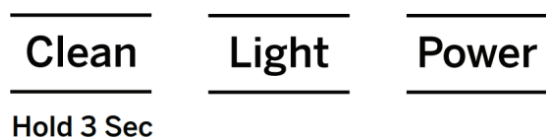

Figure 3
6. Plug in Opal and hold the 'Clean' button for 3 seconds to initiate the cleaning process. See figure 3.